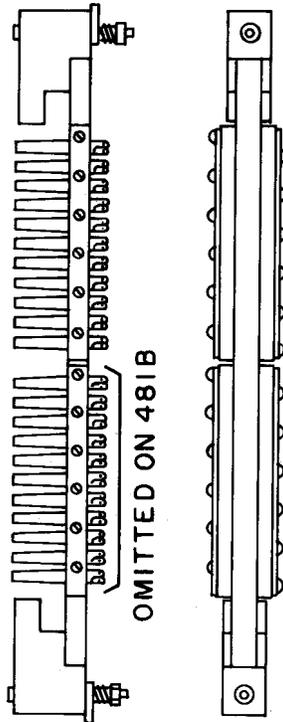

Fig. 12—481A or B Jack
2.07 481A and B: These multicontact jacks (Fig. 12) are designed for flexible mounting. They are used in the reader for the Automatic Message Accounting Systems and Accounting Center 1. These jacks are provided with guide holes for locating pins on the plug portion of the readers and for lining up the contact springs of the jacks with the contacts of